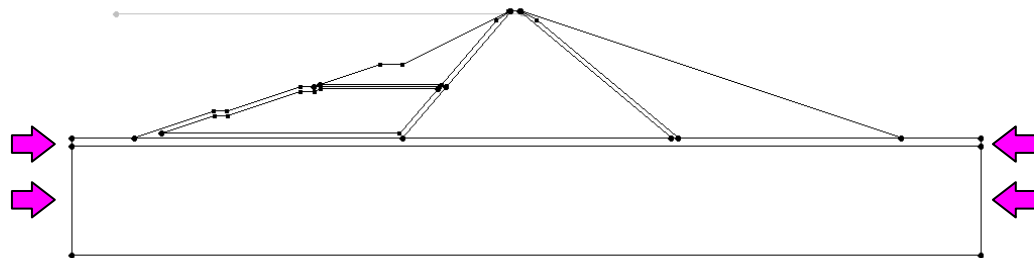

Figure 7 Closing the bottom zone polygons
2. Create four arcs, two on the left and two on the right of the model by clicking on the ends of the existing arcs to connect the nodes, as shown in Figure 7 below.